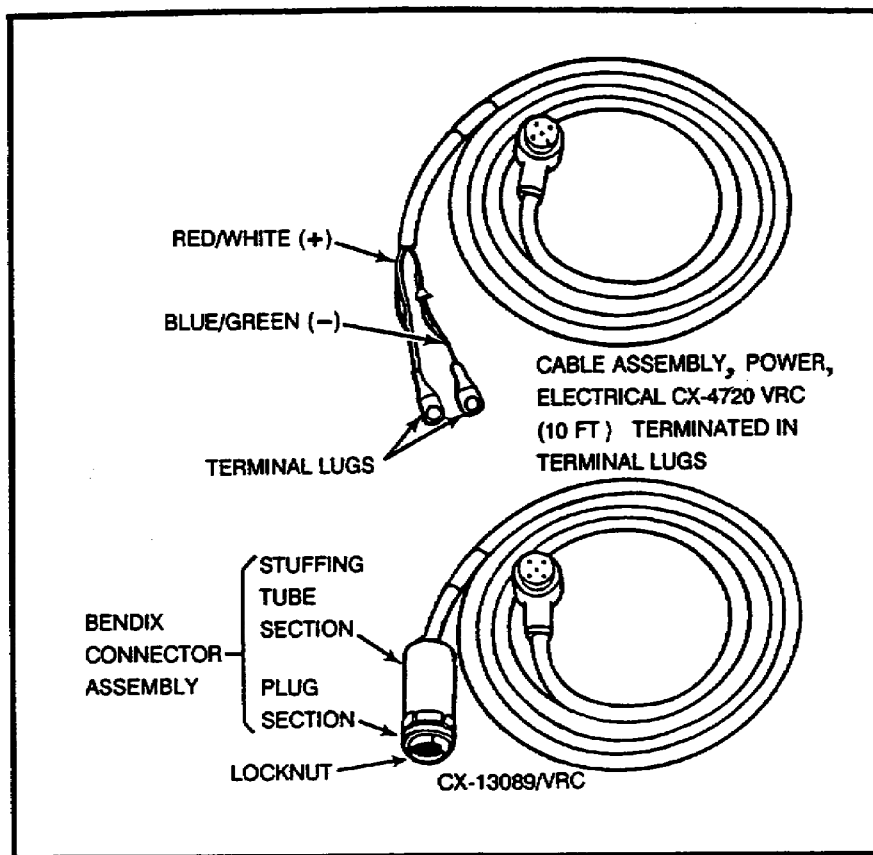

Figure 4. Cable assemblies.
h. See Figure 4. Cable assemblies CX-4720/VRC and CX-13089/VRC provide connection between the DC power source and the AM-1780/VRC, depending on the vehicle installation. The CX-4720/VRC is used when terminated in terminal lugs. When issued with Bendix connector assembly, cable is type CX- 13089/VRC.